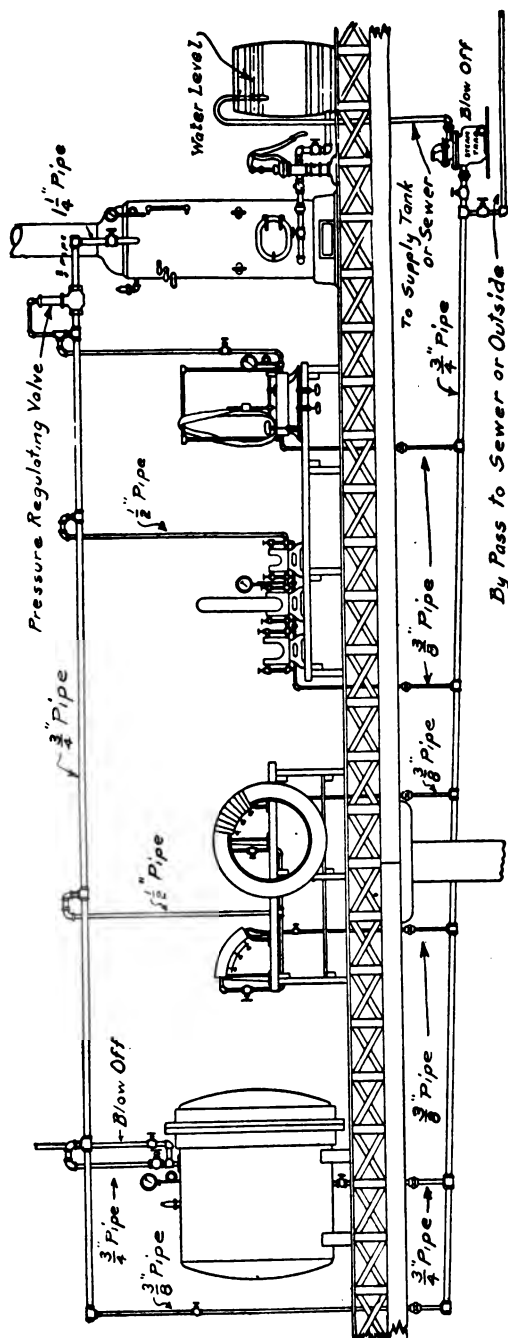
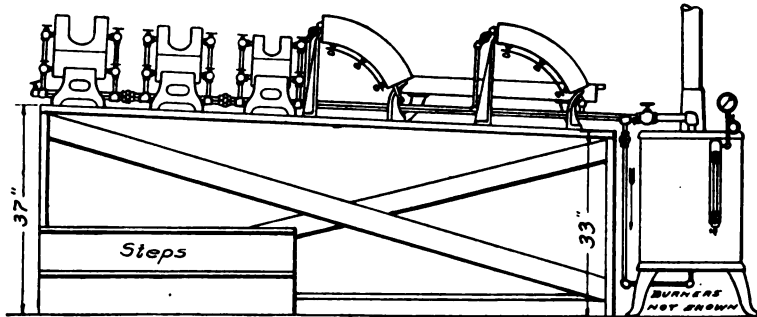

Fig. 115. Diagrammatic Layout for Non-Return Vulcanising Plant
Fig. 116. Elevation of Gravity-Return Vulcanizing Plant
*Non-Return Layout.* A typical installation according to the non-return system is shown in Fig. 115. A steam trap must be placed in the system to remove the water
*Gravity-Return Layout.* When the coil steam-generator, or flash type of boiler is used, the gravity-return system is utilized, this being a method of piping by means of which the condensed steam is returned to the coil heater to be used over again. This makes it necessary to set the apparatus so that the water of condensation will run back to the coil heater, which means that the pieces must be in a series, each successive one being set a little lower down to the boiler. Figs. 116 and 117 show a side view and plan view, respectively, of a small plant arranged on this plan. The outfit consists of the coil heater, which may be fitted to burn gas or gasoline, two inside molds, a large
tube plate, and a three-cavity sectional vulcanizer. The outfit differs from Fig. 115 only in the absence of the kettle; on the other hand, the tube plate in Fig. 116 is larger.